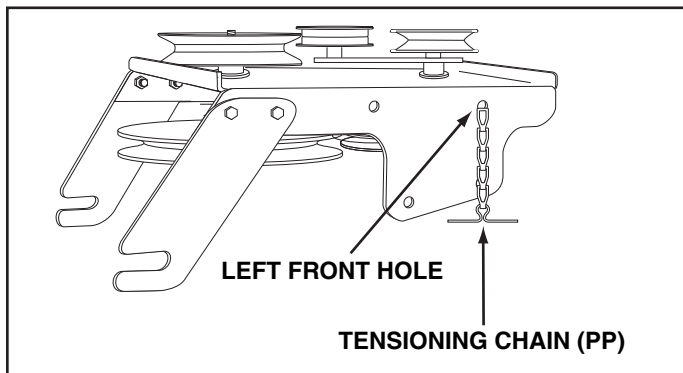

FIGURE 15
STEP 15: (SEE FIGURE 15)
- Turn the clutch/idler assembly upside down and place the extra tensioning chain (PP) through the left front hole.